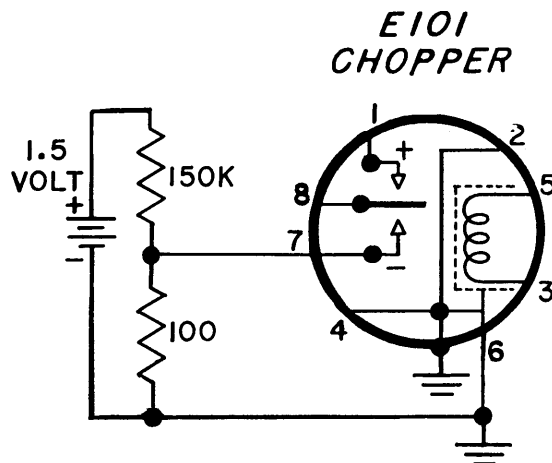

Figure 6-1. Carrier Amplifier Test Connections, Field Strength Meter IM-84/URM-50
(3) CHOPPER PERFORMANCE TEST.—To determine if the chopper is functioning properly proceed as follows:
Step 1. Prepare a source of one millivolt D.C. in accordance with Figure 6-1.